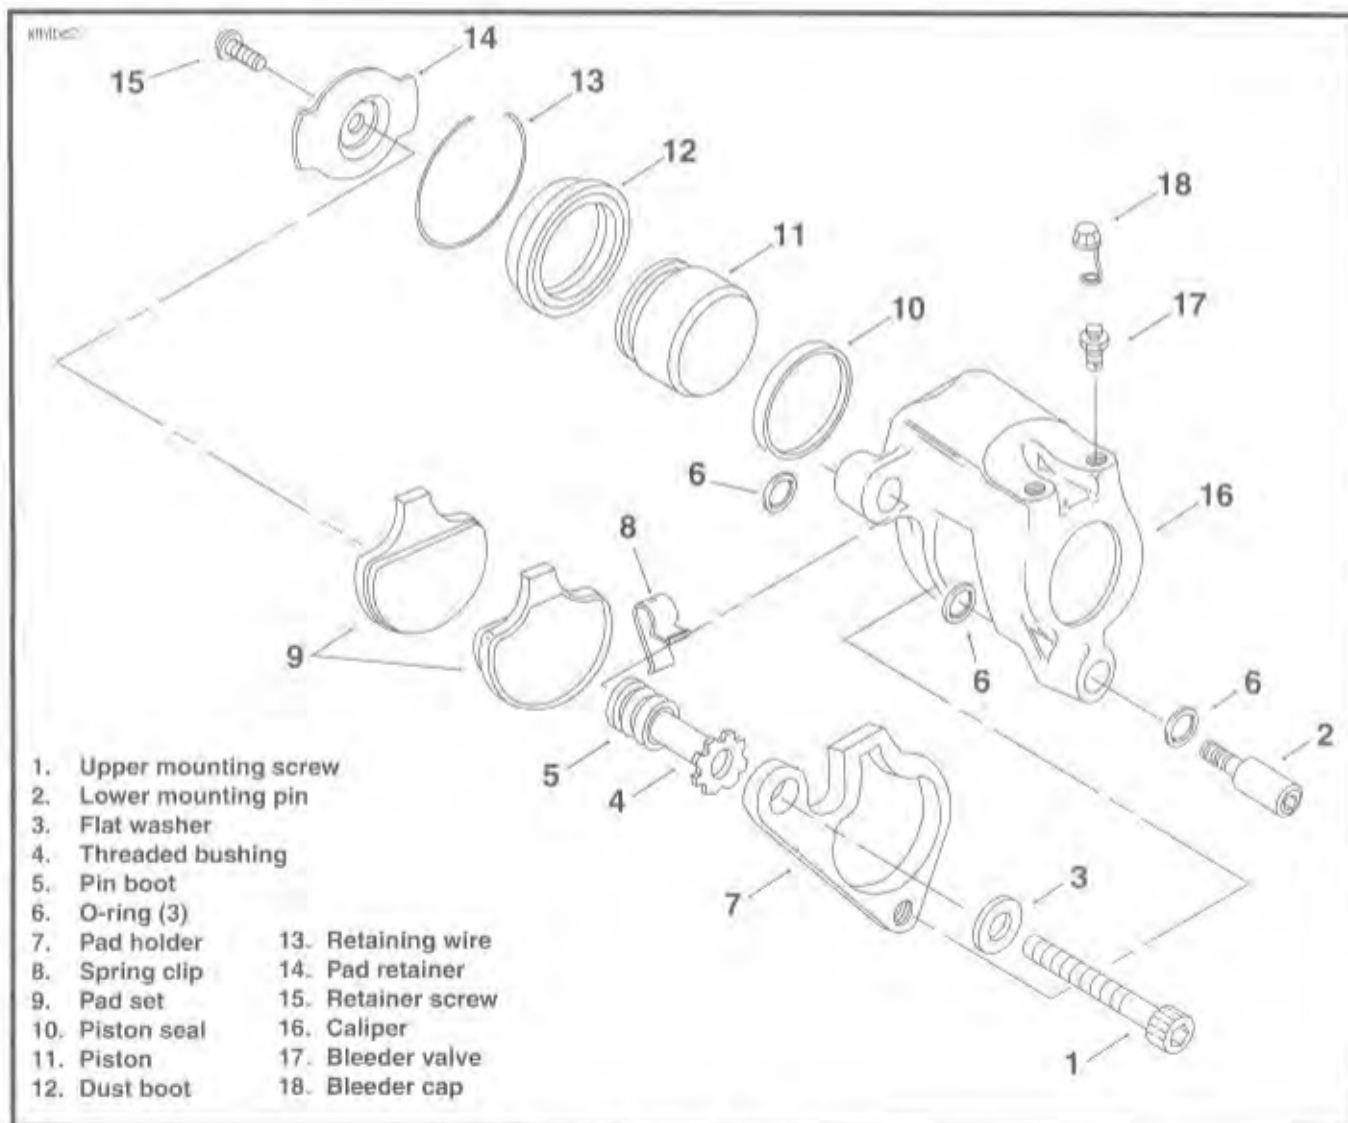
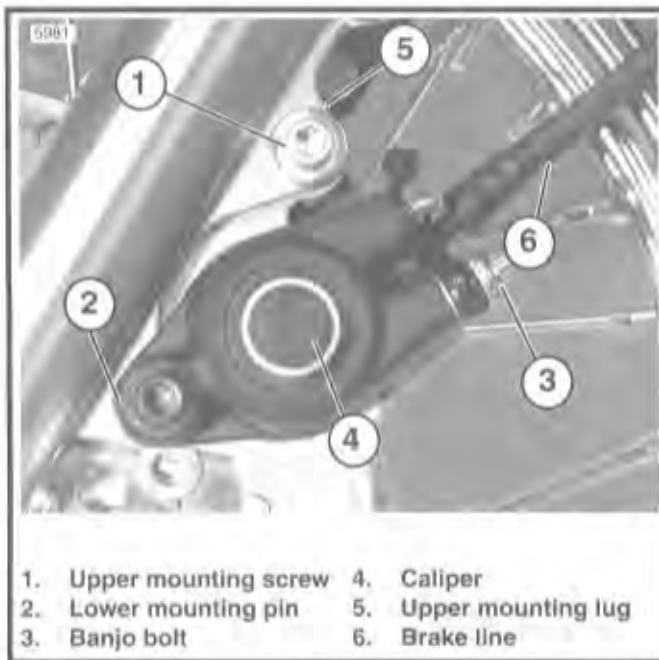

Figure 2-50. Front Brake Caliper
Figure 2-52. Front Brake Caliper Mounting
(Figure 2-50)
CLEANING, INSPECTION AND REPAIR (Figure 2-50)
1. See Figure 2-50. Install **new** seal (10) in groove of caliper piston bore (16). Install **new** O-ring (6) in groove of threaded bushing bore. Install **new** O-rings (8) in each groove of lower mounting pin bore. Apply DOW CORNING 44 GREASE (tube marked "PIN LUBE" in service parts kit) to interior cavity of pin boot (5). Insert flanged end of pin boot in groove of threaded bushing bore.
2. Install dust boot (12), with its concave side facing piston (11), over top of piston. Seat the inner lip of dust boot in groove at top of piston.
3. Apply light coat of NovaGard silicone grease (marked "PISTON LUBE" in service parts kit) to piston O.D., including chamfer. Apply a light coat to caliper piston bore (16) and I.D. of installed piston seal (10). Install piston (with dust boot) into caliper piston bore. Use a "C" clamp to press in piston, if necessary.
7. See Figure 2-50 and 2-51. Lay down pad holder (7) on a firm flat surface with upper mounting screw (threaded bushing) hole positioned at the upper right.
8. Hook lip on looped end of clip (8) under inside edge of pad holder at top. Holding pad holder down, raise clip to snap in place on pad holder. Pick up pad holder to verify that clip is firmly attached. Lay pad holder back down in the same orientation.
9. With black insulator backing facing pad holder, center outboard pad (9) within pad holder. In this position, tang of pad rests on clip loop while bottom of pad slightly enters opening of pad holder. Push down on tang until pad lies flat. Pick up pad holder to verify that pad is firmly attached. One lip on clip should be caught on pad holder, the other on tang of pad.
10. See Figure 2-50. Insert the assembly (outboard pad, pad holder and spring clip) into place on caliper (16) with insulator side of pad against face of piston (11).
1. See Figure 2-50. Apply light coat of DOW CORNING 44 GREASE (marked "PIN LUBE" in service parts kit) to O.D. of lower mounting pin (2).
2. See Figure 2-52. Position caliper (4) so that brake disc is situated between friction pads and lower mounting hole in caliper is aligned with lower mounting lug on front fork.
3. See Figure 2-50. Insert lower mounting pin (2) through caliper (16) and front fork lower mounting lug. Thread pin into tapped hole at lower end of pad holder (7). Tighten pin to 25-30 **ft-lbs** (34-41 Nm) torque.
5. Install upper mounting screw (1) with spacer washer (3) through front fork upper mounting lug and pad holder (7). Thread the screw into threaded bushing (4). Tighten screw to 25-30 **ft-lbs** (34-41 Nm) torque.
6. Install bleeder valve (17) and valve cap (18), if removed. Tighten valve to 80-100 **in-lbs** (9.0-11.3 Nm) torque.
7. See Figure 2-52. Connect brake line (6) to caliper using **new** steel/rubber banjo washers. Tighten banjo fitting bolt (3) to 17-22 **ft-lbs** (23-30 Nm) torque.